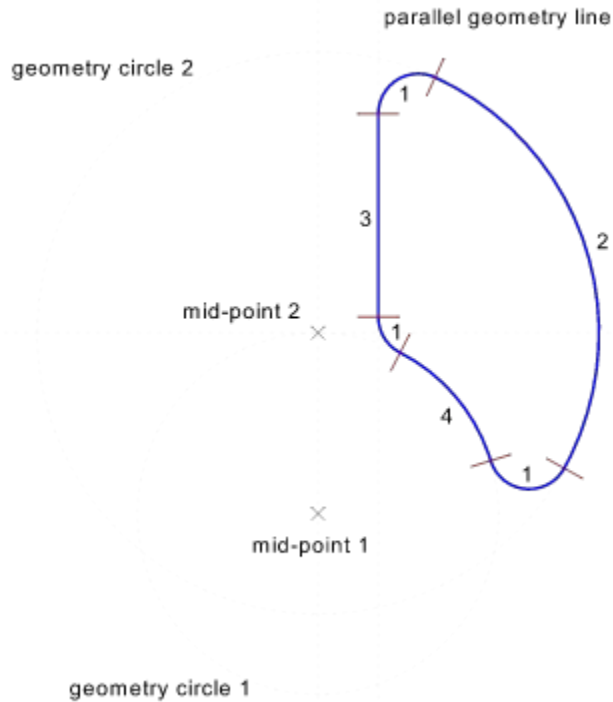

Figure 5
The blank spaces in the eccentric are still missing. Only one has to be drawn: the other can be created using mirroring with the duplicate function turned on. The outline of each cut-out consists of the five circle parts (3×1, 2, and 4) as well as a line (3) (Figure 5). Of the circle parts 2 and 4 as well as the line 3, only the position of the geometry on which they sit is known. The start and end points are not known.